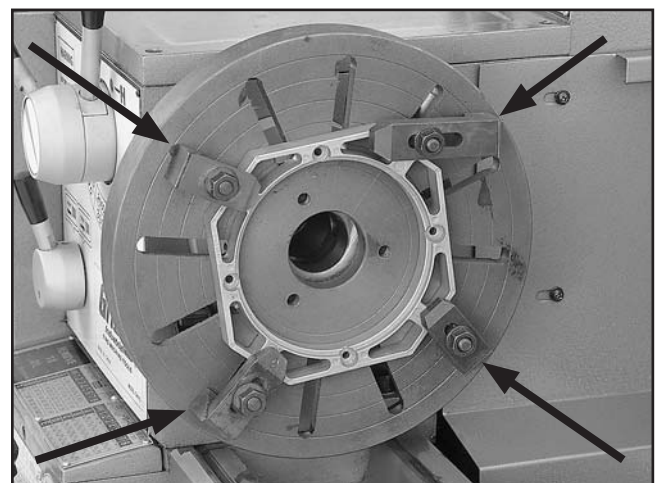

Figure 21. Faceplate with properly mounted workpiece clamped in four locations.
3. With assistance, place the workpiece onto the faceplate and clamp it in place with a minimum of three independent clamping devices (see **Figure 21** for an example).